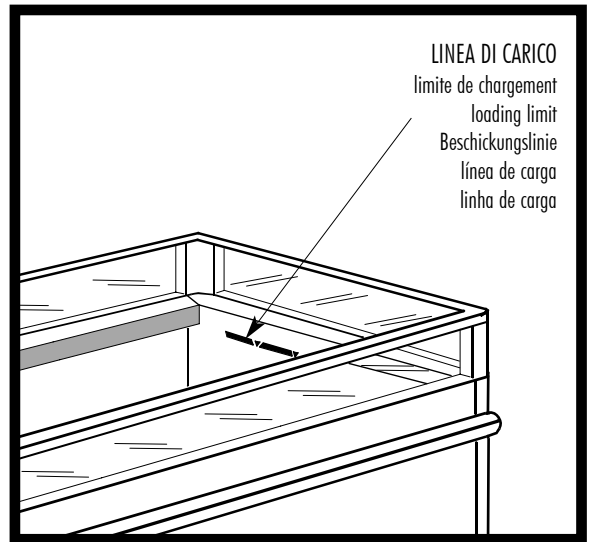

fig. 13
- the load limit line represented in figure 13 of page 5 is not exceeded